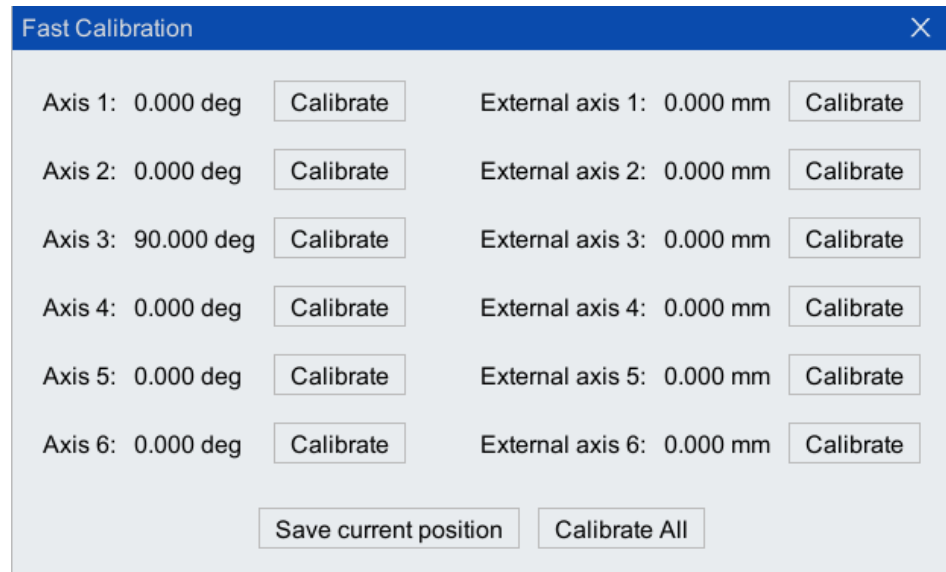
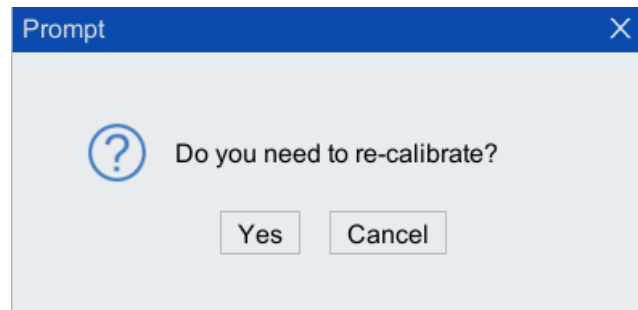

Figure 5-96 "Quick Calibration" Interface
Figure 5-97 "Are you sure to recalibrate?" dialog box
Step2.On the main interface of the teach pendant, click "Run > Calibration > Fast Calibration" option to enter the "Fast Calibration" interface shown in Figure 5-96. Click <Save Current Position> button, and then the system will record the robot's current axis position.
Step4. Re-enter "Fast Calibration" interface in Figure 5-96, and click <Calibrate> button behind any axis or <Calibrate All> button below, and "Do you need to re-calibrate?" dialog box will pop up, as shown in Figure 5-97. Click <Yes> button, and "Message Bar" of the system will display "One axis or all axes are calibrated successfully", and the corresponding axis will be completed to the previously recorded position.